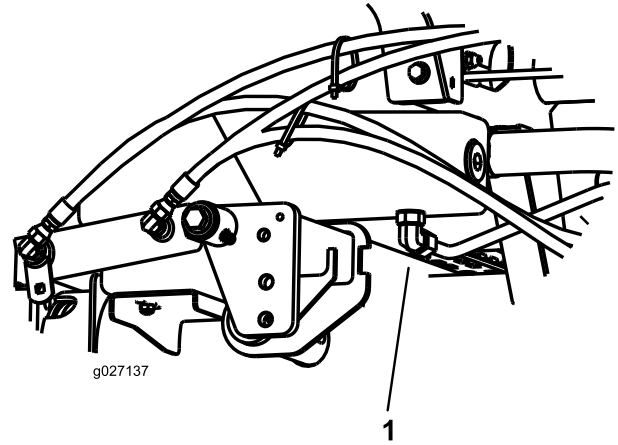

Figure 75
2. Place a large drain pan under the fitting secured to the bottom of the hydraulic-fluid reservoir (Figure 75).